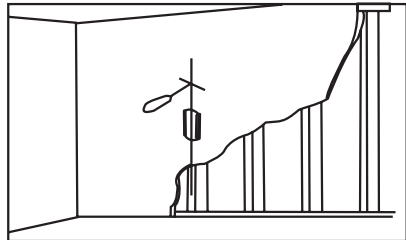

Fig 2b
**Wooden wall(Fig 2b):**
Using a awl or nail to make where the nails are located, as shown as fig.2b. Distance between two nails for fixing wall mount must not less than 12". Pre-drill these holes with a 5mm drill bit to at least 80mm in deep hole. Please make sure these holes are level and located at center. Use wall mount as a template to mark the location of other three holes and drill the same holes. Fix the wall mount to the wall with 4 long bolts(O) and washers(Q).